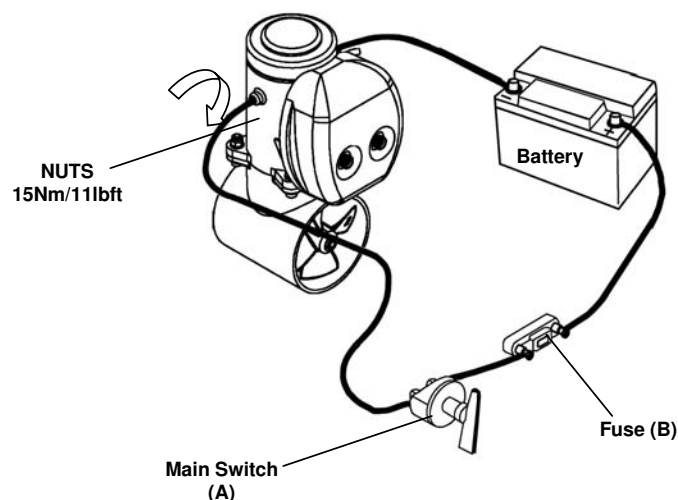

Fig. 28
A main switch (A) capable to take the load without losses has to be connected in line to the main positive supply, in a way that the unit could be isolated independently from other equipment on board when no one is on board or in case of emergency. This has to be installed in an easily accessible place and on the instructions of the boat has to be noted that this has to be turned off as well as other main switch on board. (Fig. 28).
Tight the M8 screws with a torque of 15Nm/11lbf (Fig. 28).